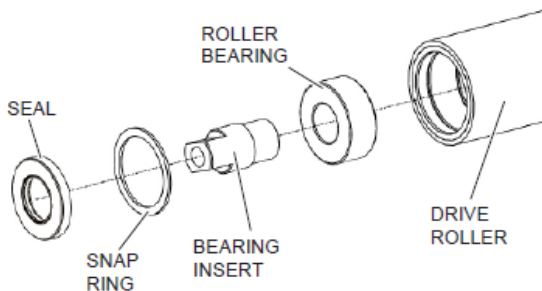

Figure 92
3. Use a slide hammer to remove the stub shaft and bearing from the roller Figure 92